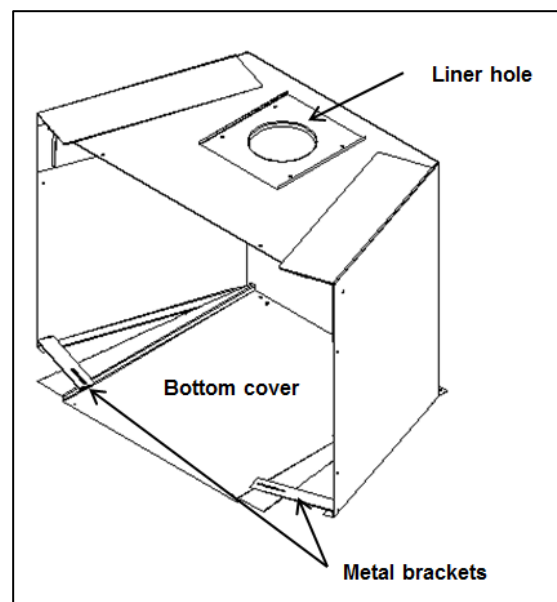

Figure 18: Circulating Chamber Assembly
- Secure the bottom cover to the back wall of the circulating chamber and bend inwards the metal brackets at the front bottom (Figure 18).
- Loosen the wing nuts of the adjustable liner hole (Figure 18).